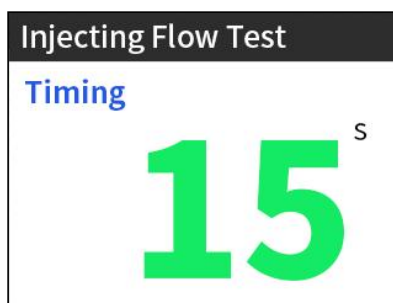

Figure 5.7
- 2) Select [Injecting flow test] on the main interface and press [Start] button. The system will start to work. At this time, the pressure can be adjusted via [Pressurization⊕] and [Depressurization⊖] buttons, as shown in Figure 5.7.